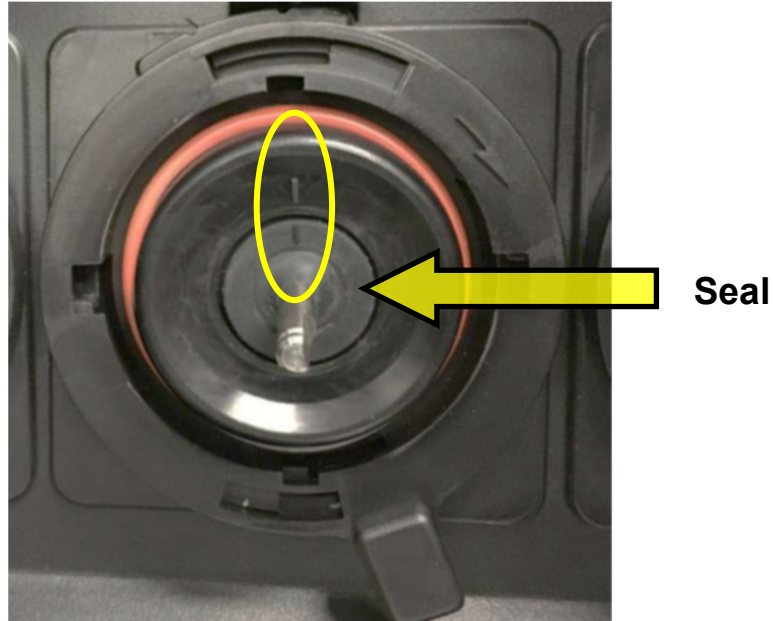

Fig. 7
**Notice alignment lines on both the Locking Ring and Seal (see Fig. 7)*